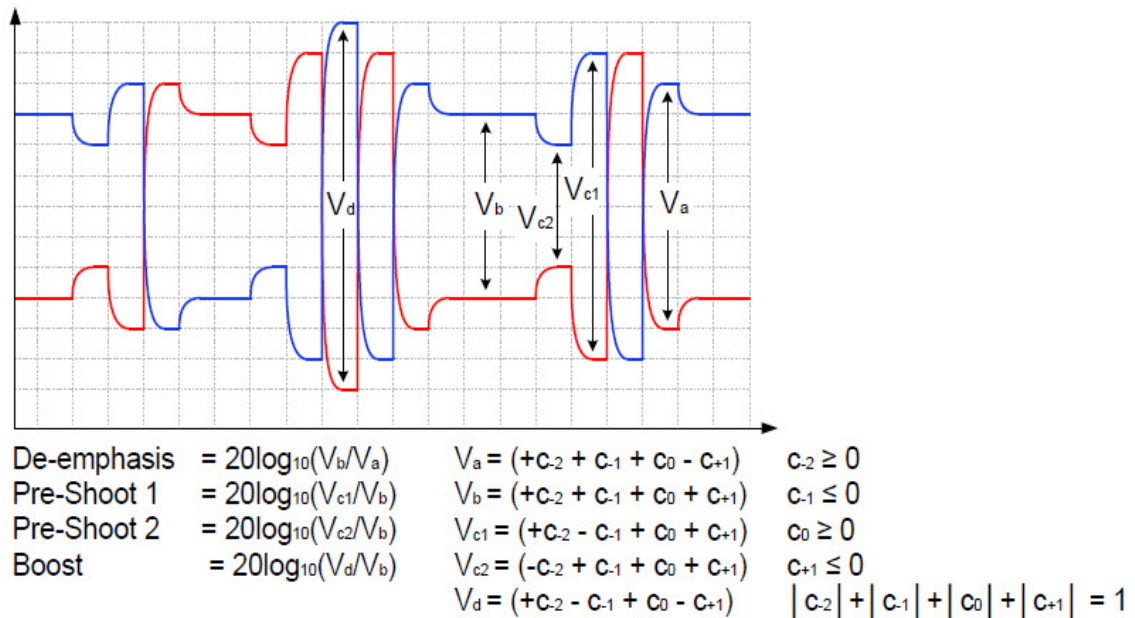

Figure 41 Waveform measurement points for preshoot and de-emphasis
64.0 GT/s PCIe signaling must support the full range of presets given in Table 8-2 (PCIe Base Specification Revision 6.0). Presets are defined in terms of ratios, relating the pre-cursor and post-cursor equalization voltages. The pre-cursor (V_c) is referred to as pre-shoot, while the post-cursor (V_b) is referred to as de-emphasis. This convention permits the specification to retain the existing 2.5 GT/s and 5.0 GT/s definitions for Tx equalization, where only de-emphasis is defined, and it allows preshoot and de-emphasis to be defined such that each is independent of the other. The tolerances in Table 8-1 (PCIe Base Specification Revision 6.0) also apply to 2.5 and 5.0 GT/s de-emphasis. The maximum swing, V_d , is also shown to illustrate that, when both c_{+1} and c_{-1} are nonzero, the swing of V_a does not reach the maximum as defined by V_d . The high frequency nature of PCIe signaling makes measurement of single UI pulse heights impractical. Consequently all amplitude measurements are made with low frequency waveforms as shown in Figure 41.
- 13 Computes their equalization voltages by using Matlab, and then calculates equalization ratios by using the formulae stated in Figure 41 (Figure 8-6 of the spec).